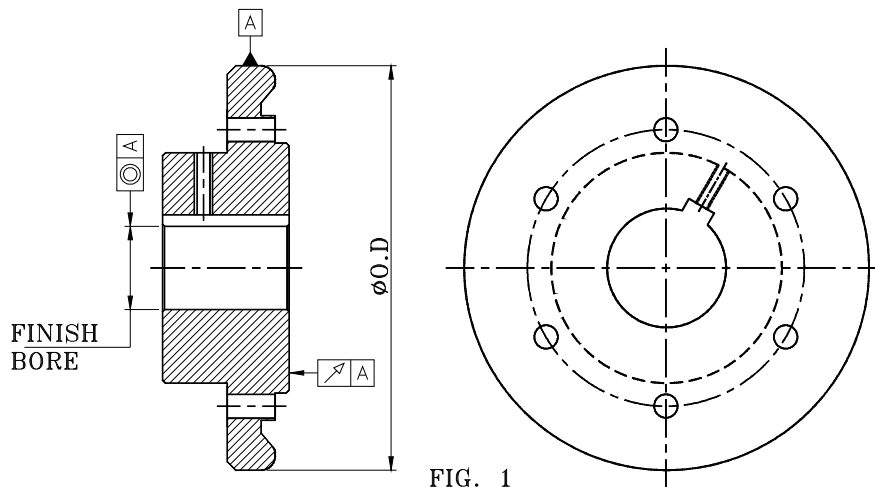

FIG. 1
1. Rathi couplings are supplied with pilot bore unless ordered for finish bore. They should be bored to required finish bore sizes with reference of the outside diameter (OD) of hub (Refer fig. 1)
6. Mark the keyway centre line such that keyway should come between two holes in TYRE-FLEX hubs (Refer FIG. 1).